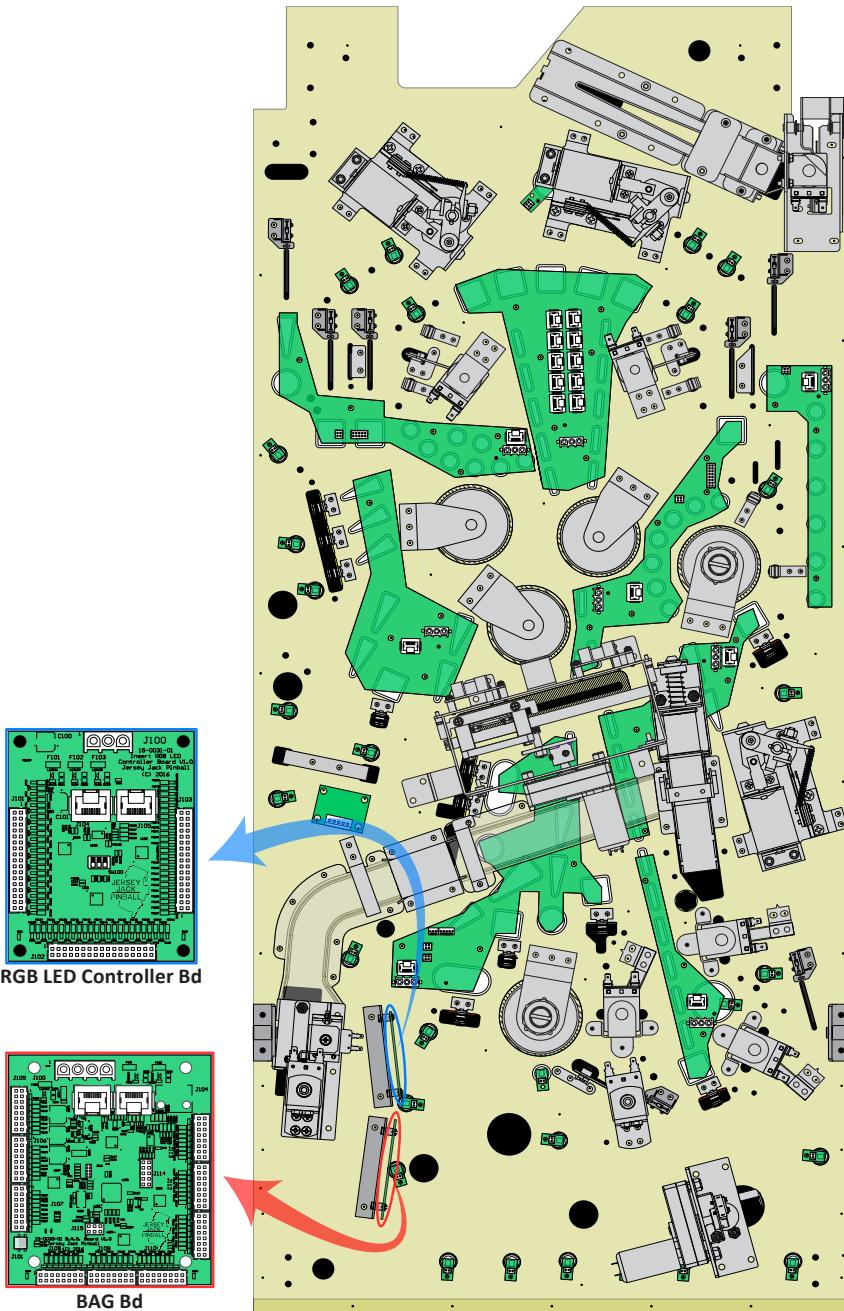

Figure E3. Dialed In lighting system controller boards.
The communications/control hub is the Bus, Accelerometer and GI (BAG) board; it is mounted, vertically, under the upper left area of the playfield (circled in red in figure E3). An on-board microcontroller receives data/commands over a USB connection to the CPU board (**J101**). Controls are then sent out, over an inter-integrated circuit (I2C) bus, to the game's light boards - and more, if needed. Communicating over an I2C bus, between printed circuit boards (**J102**, **J103**), adds a great deal of flexibility to the system. Simultaneous control of a wide variety of device types is now possible.
In Dialed In, the eight large RGB LED PCBs (under the playfield), the Smartphone RGB LED PCB (inside the Smartphone) and an RGB LED Controller board (circled in blue in figure E3) are used to control the game's feature lighting. 4VDC is run through these boards to provide power to all of the RGB LED boards around the playfield (above and below). This 4VDC is supplied by the 7.5/4VDC Power Supply, located inside the backbox PCBs EMI shield (item 2, pg C-46 of this manual). Each RGB LED Controller board can control up to 24 RGB LEDs, 8 through each of 3 driver connectors (**J101-J103**). Up to 8 individually addressable (0 through 7) RGB LED Controller boards can be used in a game. Controller board addresses are set using the 3-bank dip switch labeled **SW100**. In Dialed In, the RGB LED Controller board is set to address 0 (**SW100 -> 000**).